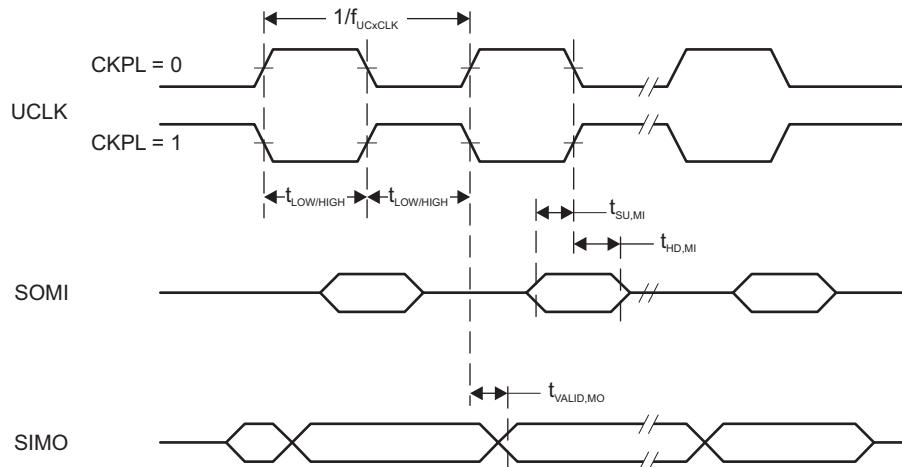
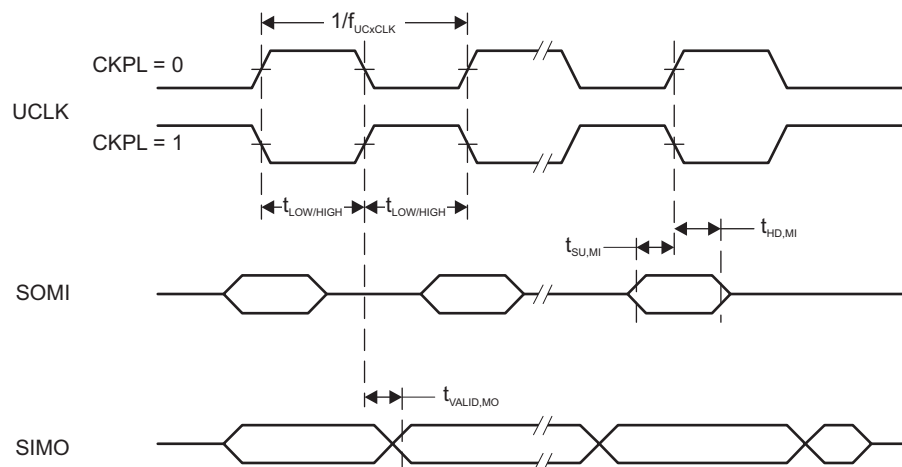

图 5-6. SPI Master Mode, CKPH = 0
图 5-7. SPI Master Mode, CKPH = 1
- (2) Specifies the time to drive the next valid data to the SIMO output after the output changing UCLK clock edge. See the timing diagrams in 图 5-6 and 图 5-7.
- (3) Specifies how long data on the SIMO output is valid after the output changing UCLK clock edge. Negative values indicate that the data on the SIMO output can become invalid before the output changing clock edge observed on UCLK. See the timing diagrams in 图 5-6 and 图 5-7.